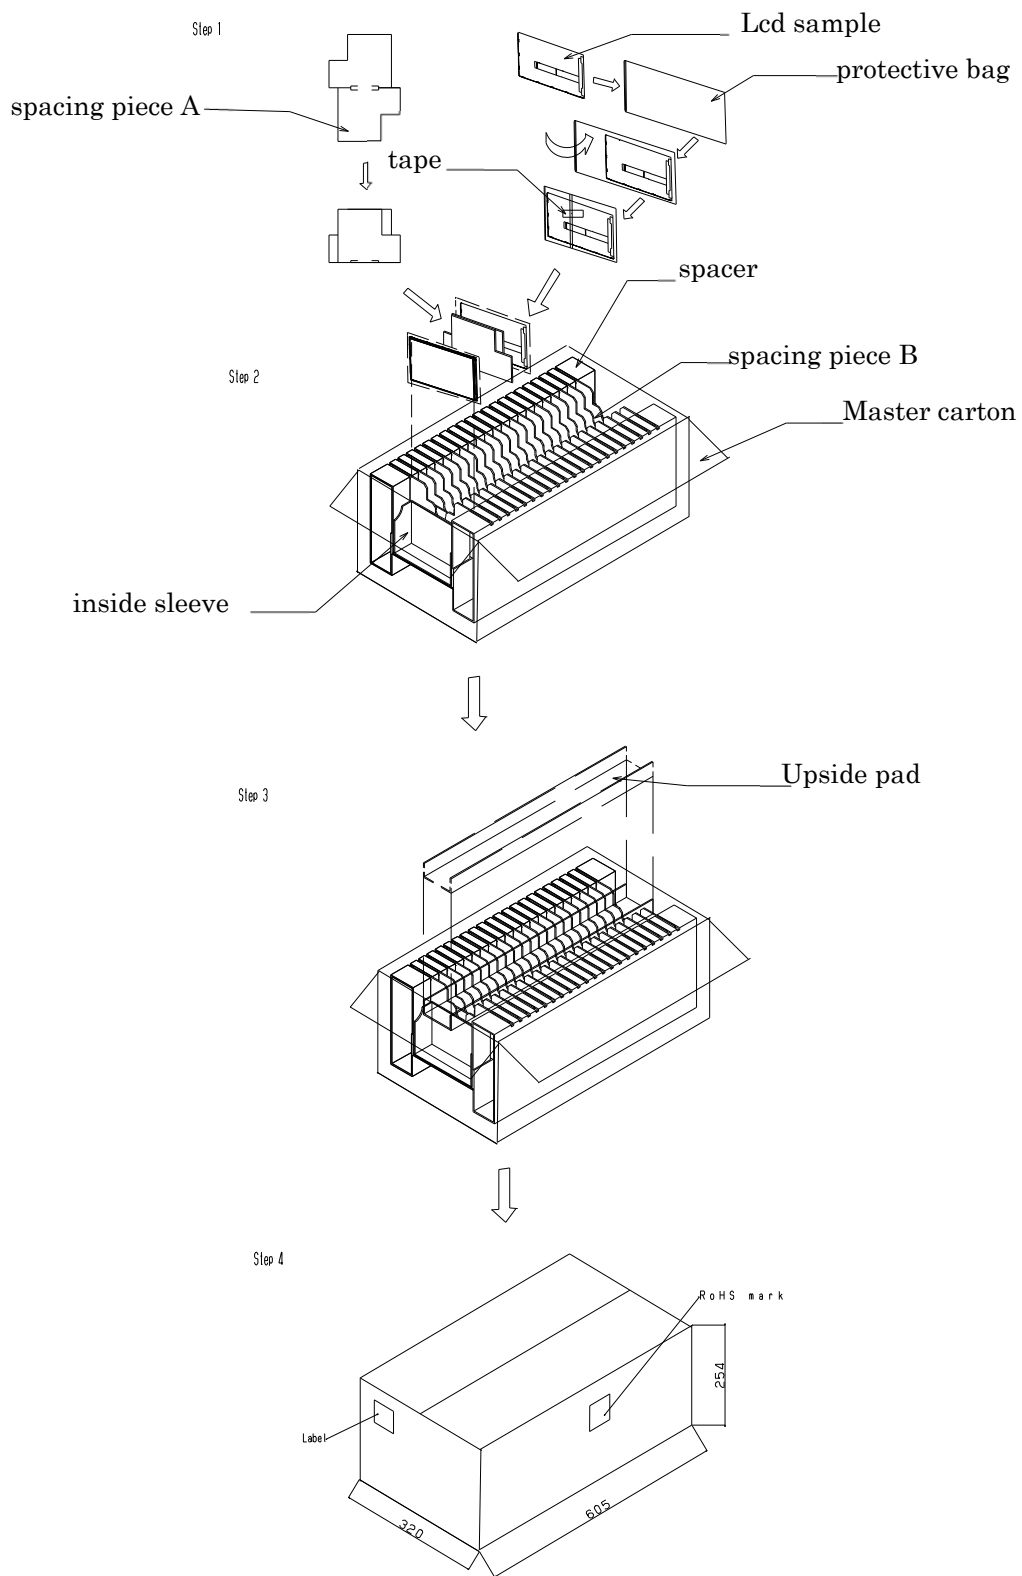

Fig.14 Packaging style
- 2) Packaging style : Fig.14,15